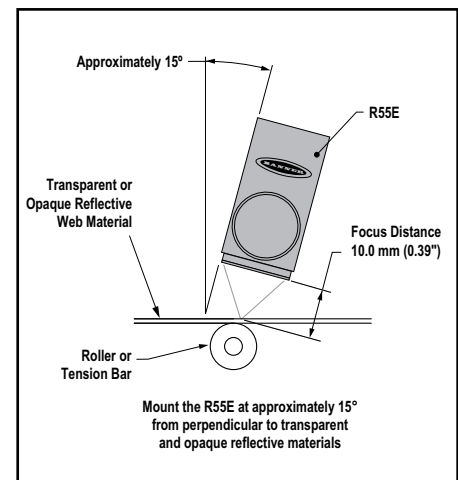

Figure 8. Mounting for sensing opaque reflective and transparent materials
2. When sensing a color mark on a reflective (shiny) material, mount the R55E at an angle that places the lens centerline at approximately 15° off perpendicular to the material's surface (see Figure 8). This "skew angle" will minimize strong direct reflections (which tend to overwhelm the sensor), and allow the sensor to discern the relatively small optical contrast offered by difference in colors.
3. Clear materials are poor reflectors of light. When sensing a mark printed on a clear poly web, position a reflective surface directly behind the clear material that will return light to the R55E. The printed mark, regardless of its color, then becomes the dark condition, as it blocks the light from reaching the reflective surface. Most clear materials are also shiny; it is important also to include a 15° skew angle when sensing clear materials (Figure 8).